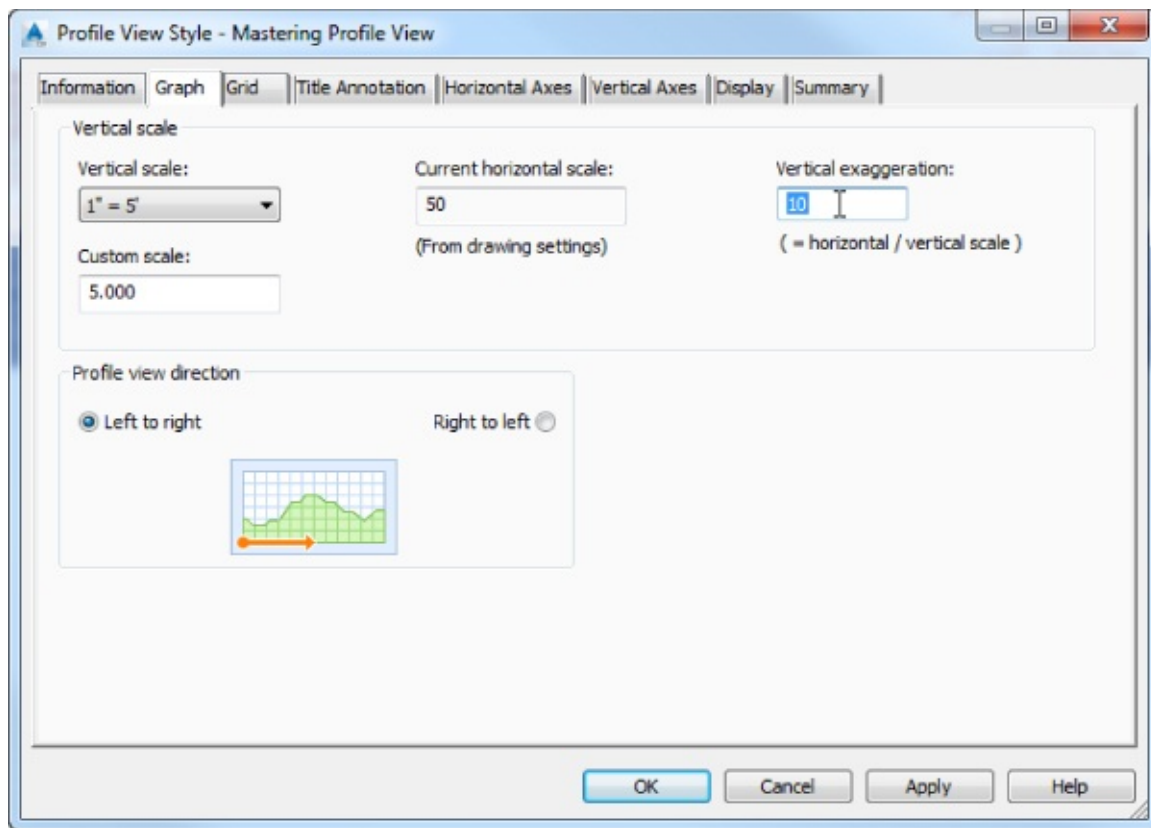

Figure 19.48 Change Vertical Exaggeration on the Graph tab : of the Profile View Style dialog.
5. On the Graph tab, change the Vertical Exaggeration value to **10**, as shown in Figure 19.48, and click Apply.